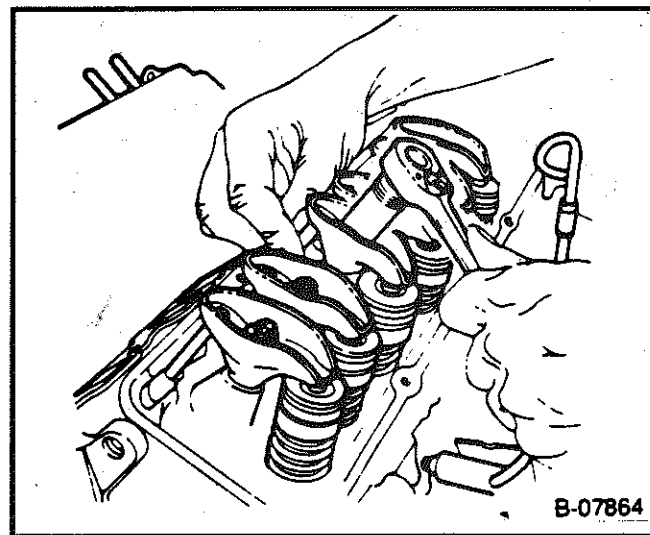

Figure 7 - Adjusting the Valves
4. Back out the adjusting nut until lash is felt at the pushrod then turn in the adjusting nut until all lash is remove. This can be determined by rotating the pushrod while turning the adjusting nut (Figure 7). When the play has been removed, turn the adjusting nut on one and one-half additional turns (to center the lifter plunger).